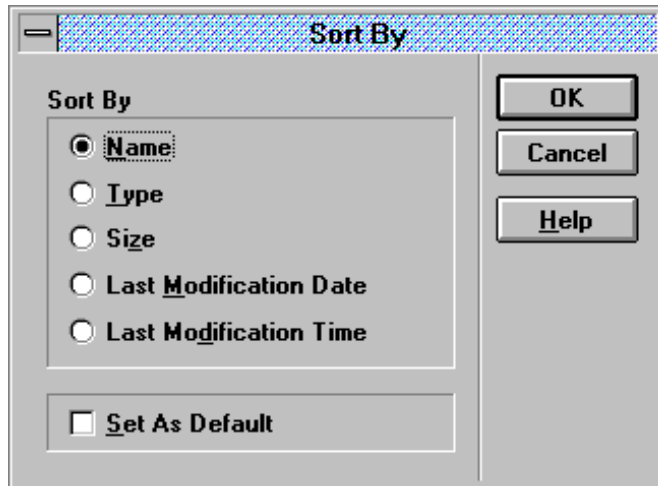

Figure 11-19: Organize your view of the files using the Sort By dialog box.
4. Close the Include dialog box and select the **Options** menu and the **Sort...** command to present the Sort By dialog box (Figure 11-19).